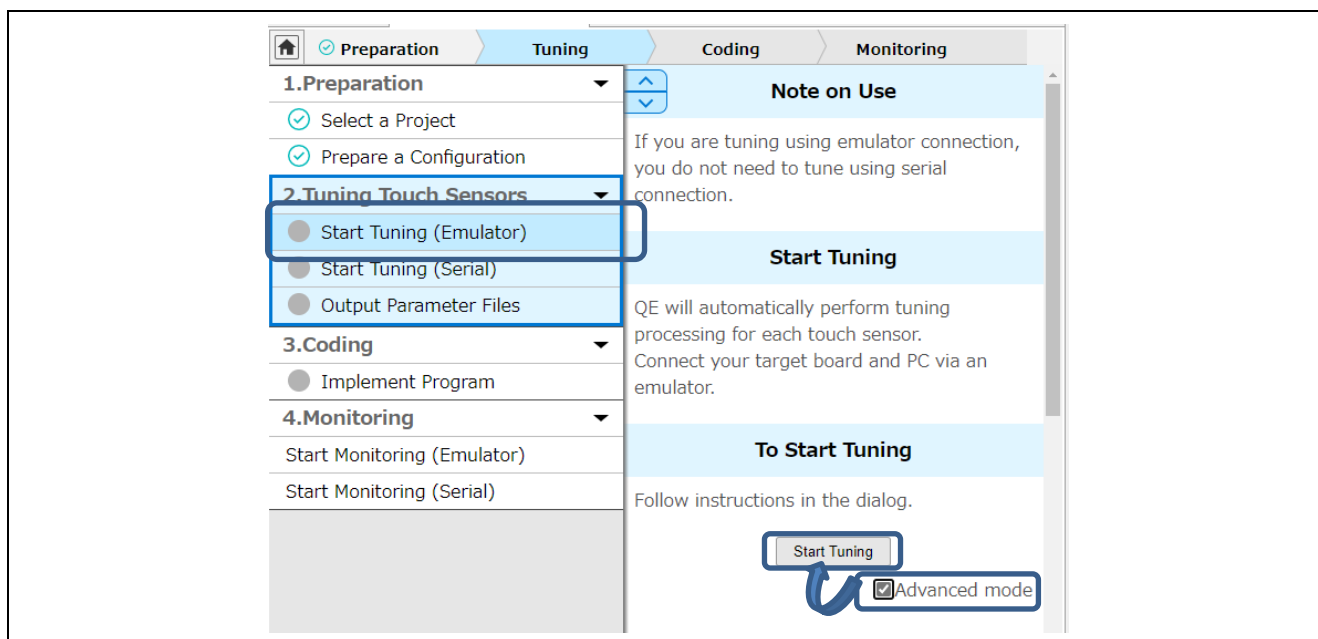

Figure 1-4 Tuning with "Advanced mode"
Figure 1-4 shows the Cap Touch workflow (QE). Tuning can be performed from “2. Tuning Touch Sensors” can be performed in “Advanced mode” Tuning by checking the “Advanced mode” checkbox under “Start Tuning”.